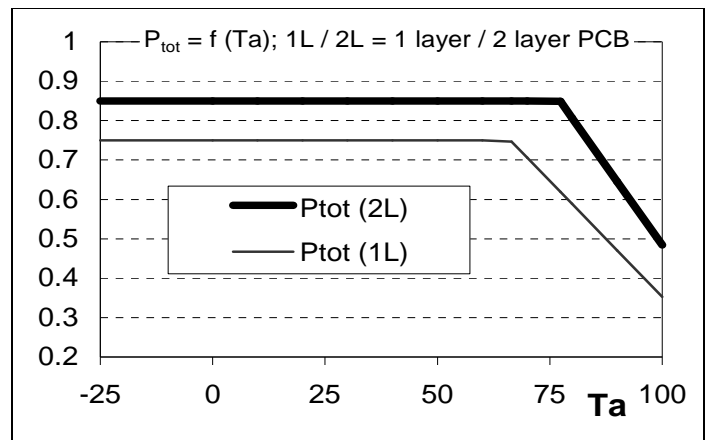

Figure 1: Ptot = f( $\theta_a$ )
- 9 at max. operating temperature, the allowed total power dissipation depends on additional thermal resistance from package to ambient and on the operation ambient temperature as shown in Figure 1.